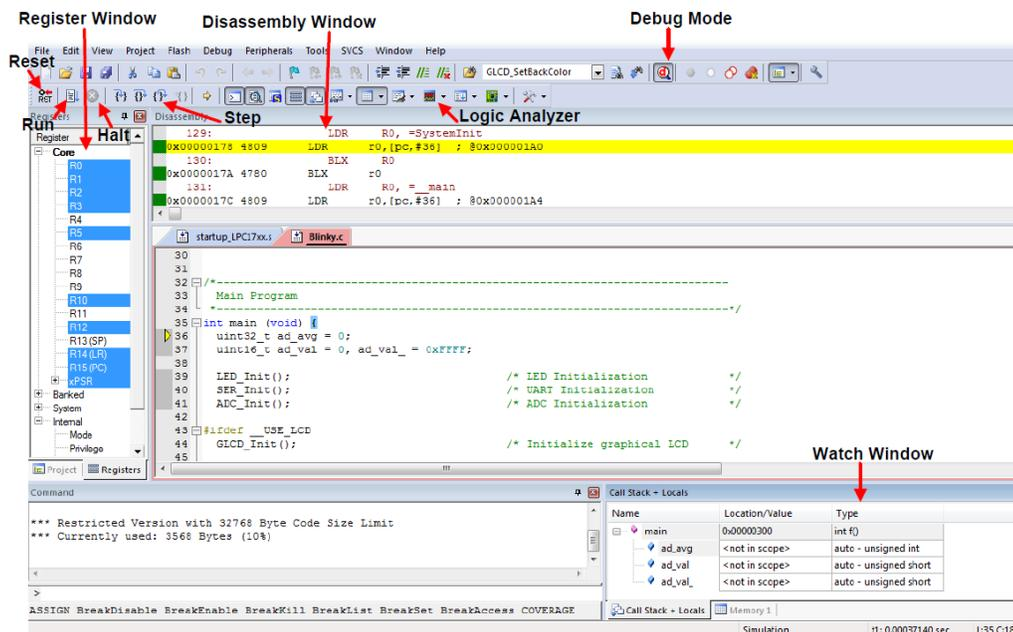

Fig. 8: uVision Debug Mode
1. Enter Debug mode by clicking on the  icon. A window will pop up displaying: "EVALUATION MODE Running with Code Size Limit:32K" Click Ok. uVision will transform into a new succession of windows, including the disassembled version of your .c code. If you have entered the Debug mode correctly, you will see a number of windows pop up which will allow you to examine and control the execution of your code. You should observe something similar to that of Fig. 8. The Debug mode will connect uVision to a simulation model of your program, downloading the project's image into the microcontroller's simulated memory.
- Steps - (See Fig. 8) As opposed to running through the whole code, the step keys allow you to step through your code line by line, step through a function etc.
The register window (see Fig. 8) displays the contents of the CPU's register file (R0 - R15), the program status register (xPSR), the main stack pointer (MSP) and the process stack pointer (PSP). This window will automatically open when transitioning to Debug mode. These registers may be used for debugging purposes, in conjunction with the watch window, steps, and breakpoints.